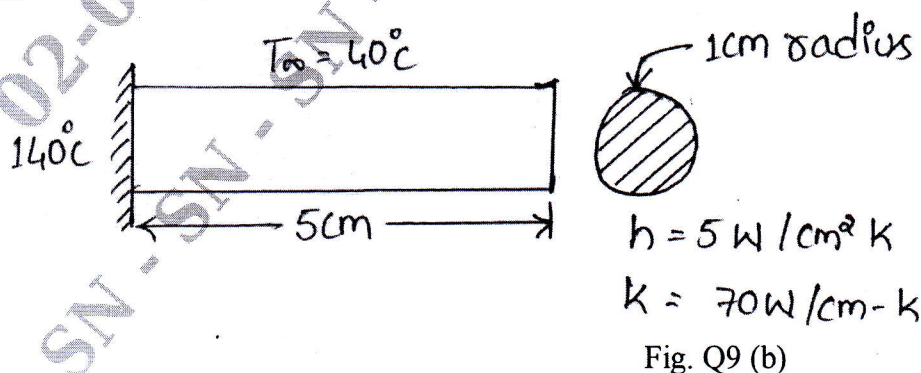

Fig. Q9 (b)
- b. Find the distribution in the 1D fin shown in Fig. Q9 (b). Take two elements for FE idealization.